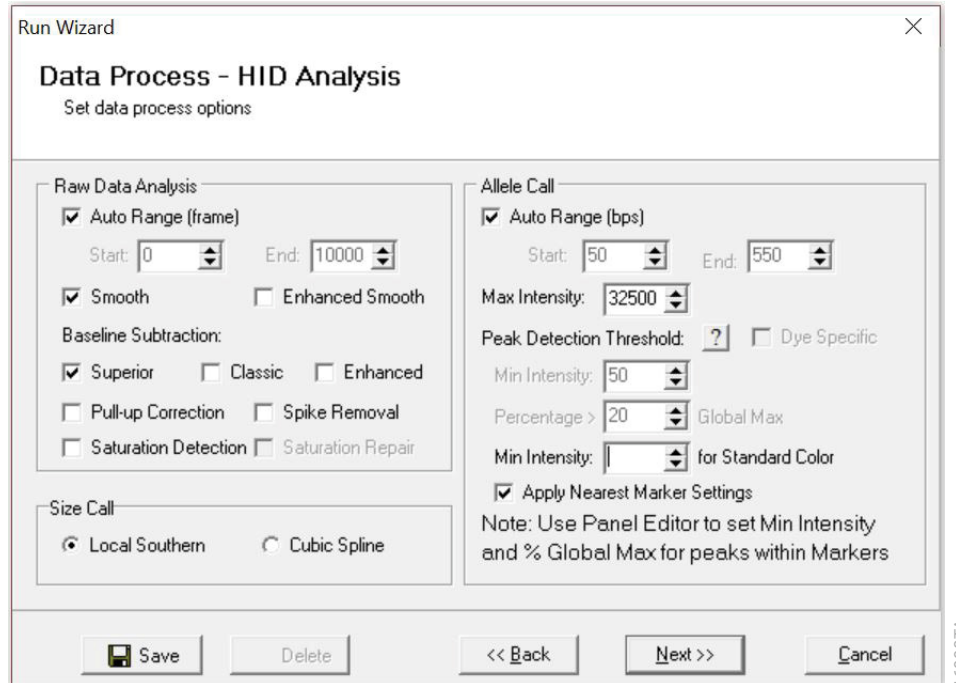

Figure 30. The 'Data Process' window for an analysis method.
- The 'Data Process – HID Analysis' window will appear (Figure 30). For the Raw Data Analysis, we recommend using Auto Range, Smooth, Superior Baseline Subtraction and Local Southern for the Size Call.